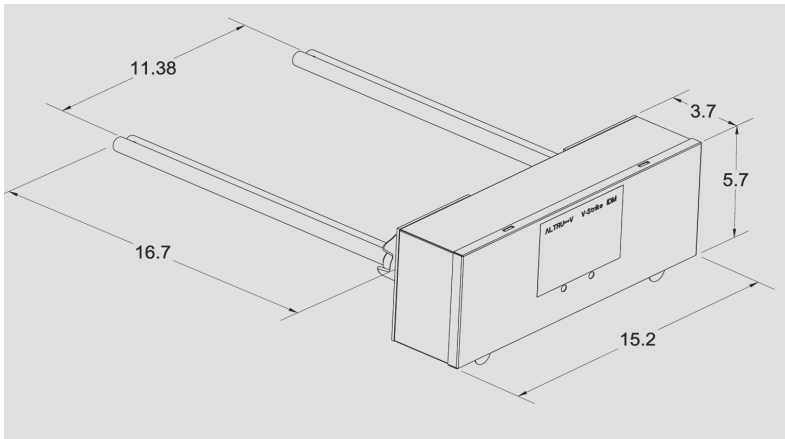

Figure 1. Shown: V-Strike™ IDM Lamp Module (with Dimensions.)
- b. The depth of the Coil box must accommodate the full length of the ultraviolet lamps see Fig 1.
1. Remove the cover on the Unit by lifting up firmly on the lower lift tabs (see figure 1).